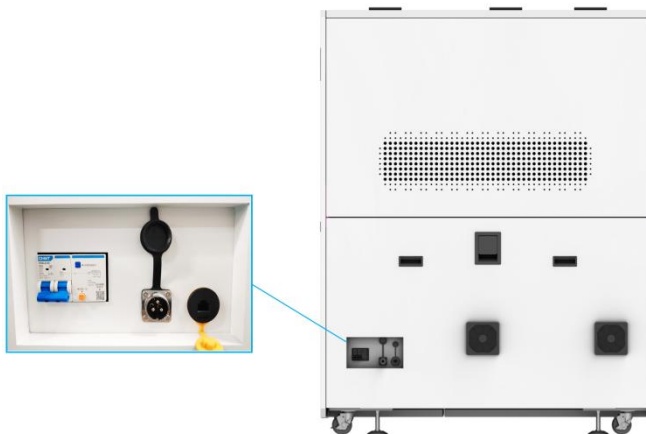

fig. 2-26 Printer Network Port Location
- Connect Ethernet cable to printer network port. See figure 2-26.